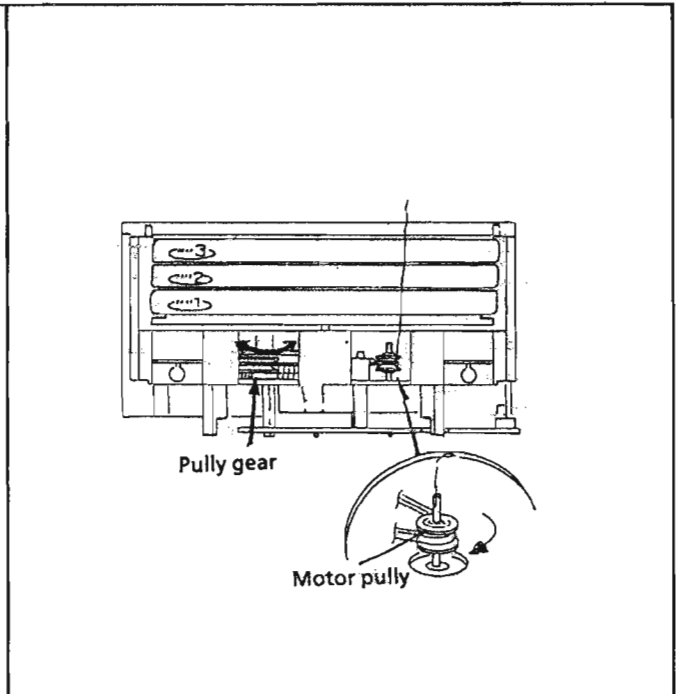
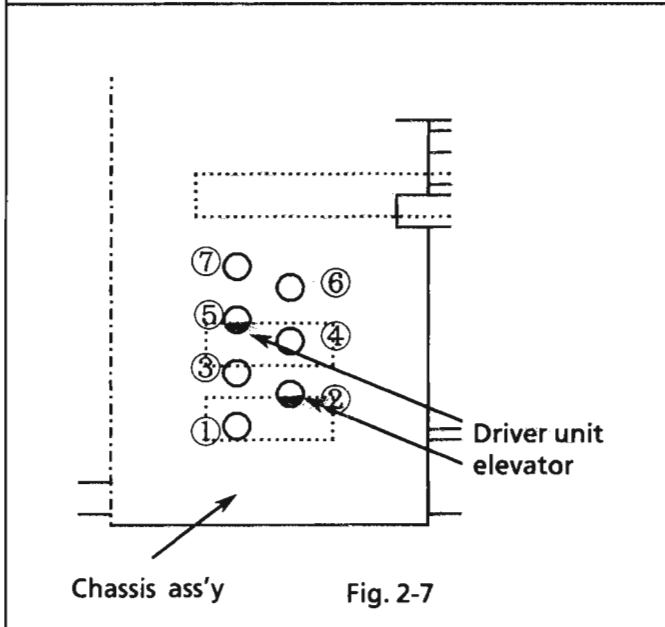

Fig. 2-8
Fig. 2-7
10. Check that the driver unit elevator is seen from a hole (marked ② or ⑤) on left side of the CD changer mech.. (See Fig. 2-7.)
[NOTE] Set the elevator in correct position (Fig. 2-7) by rotating the pulley gear with finger if it is not positioned correctly (Fig. 2-8.).
11. Rotate the motor pulley clockwise with finger until the lifter unit's stopper is lowered from (e) hole located on the CD tray ass'y. (See Fig. 2-8.)